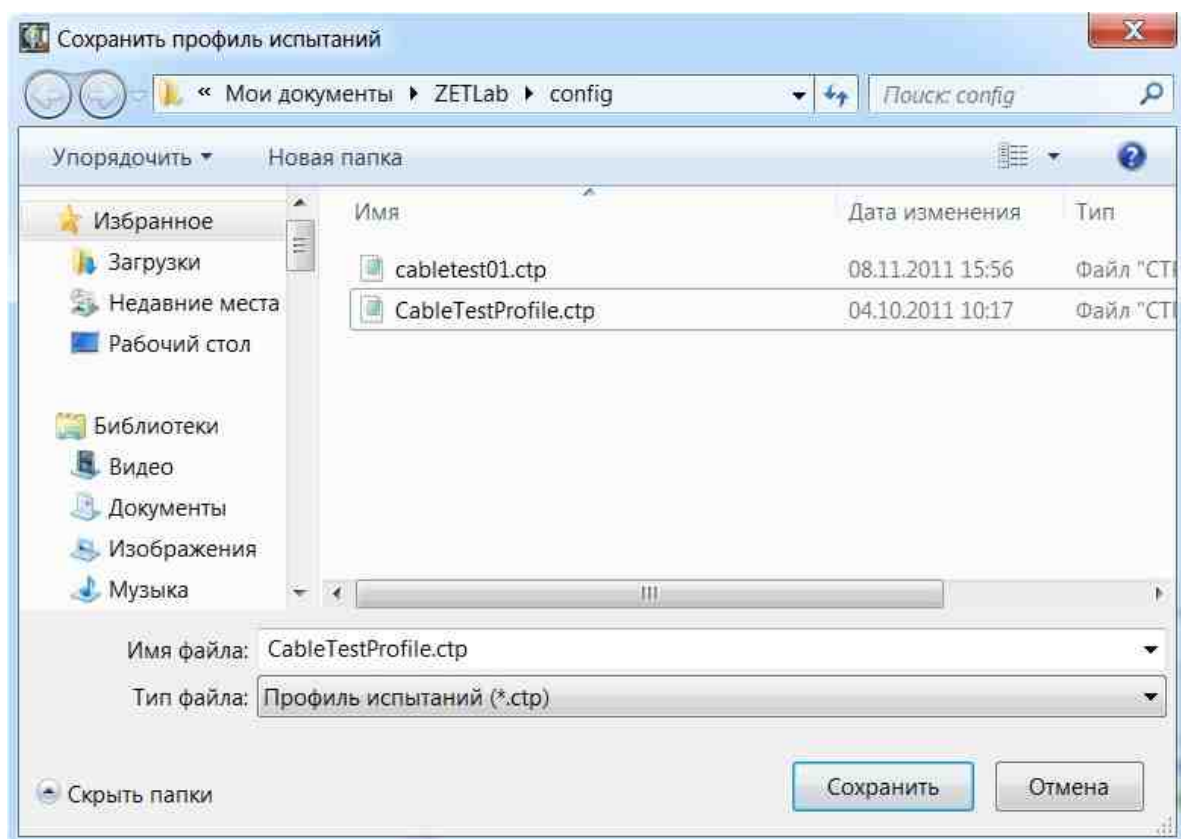

Fig. 3.18 Save the test profile file
■ at the end of the accounting, the "Stop" button changes its name to "Autotest" and a window for saving the test profile opens (*Fig. 3.18*);